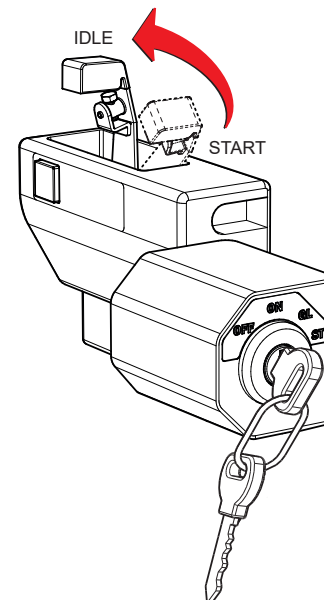

Figure 11. Engine Speed Control Lever (IDLE)
3. Move the engine speed control lever to the **IDLE** position (Figure 11). Run the engine at idle for several minutes and check for any abnormal conditions such as extreme vibration, loose components, or fluid leaks.